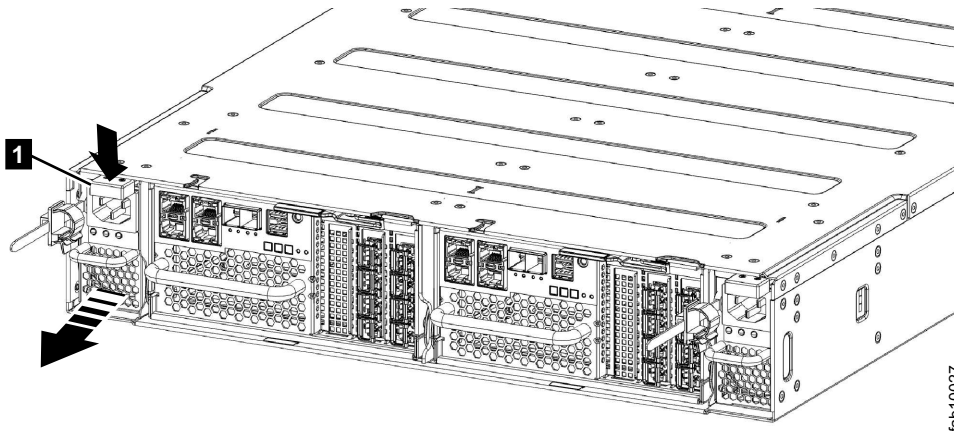

Figure 86. Removing the power supply unit (left side of enclosure)
5. Using the handle, firmly pull the power supply out of the enclosure shown in Figure 86.